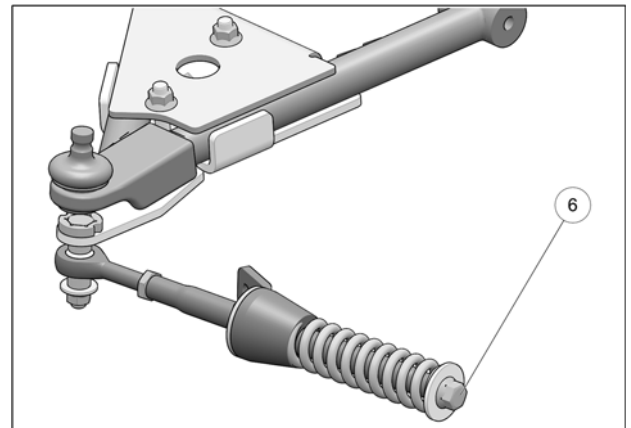

Fig. 16
9. Verify that spring assembly bolt (6) is tightened to the recommended torque specification: 75 N•m [55 lb•ft]. Refer to Fig. 16